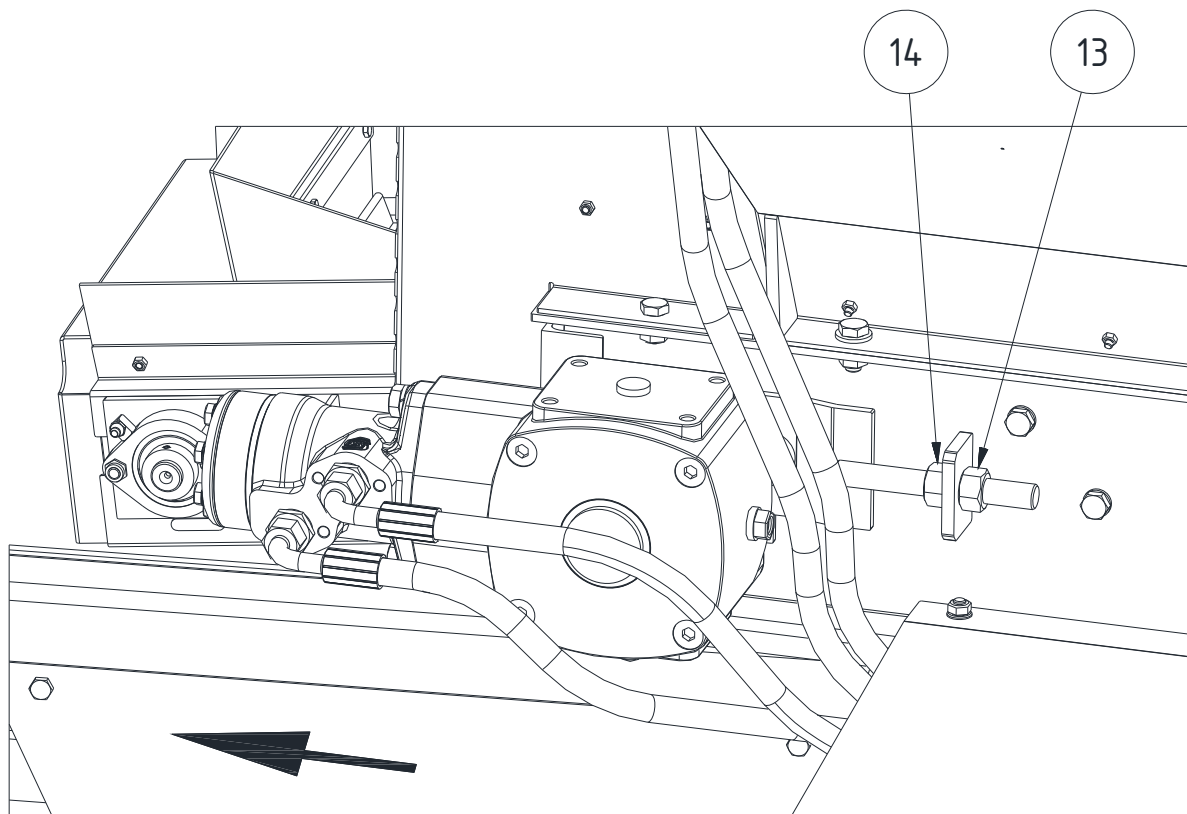

Fig.10: Retension the conveyor belt
- Tighten the conveyor belt evenly on both sides using the two tension screws (see page 23 - Fig. 10) until the marked length is stretched to a maximum of 1003 mm.